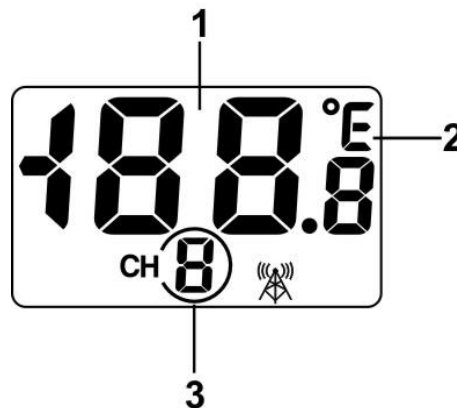

Figure 6
- (1) Open the battery compartment and (2) insert 4 x AAA batteries into the battery compartment, observing the correct battery polarity.
5. Verify the correct channel number (CH) and temperature units of measure ($^{\circ}\text{F}$ vs. $^{\circ}\text{C}$) are on the display, as shown in Figure 6.